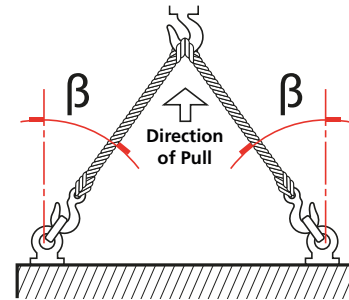

Fig 7.1 Lifting (single-acting actuator up to size 130)
- In case of single-acting actuator, hook the double chain slings on the lifting lugs, as shown in Fig 7.1